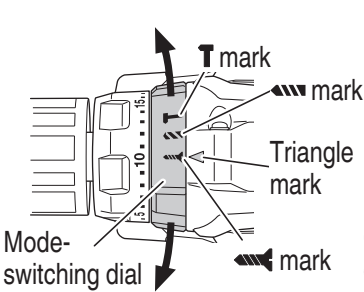
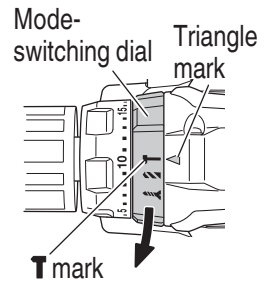

Fig. 14
Fig. 16
Confirm the mode-switching dial and clutch dial position (see Figs. 14, 15 and 16)
- (1) When using this unit as a screwdriver, align the mode-switching dial screw-tightening mark “” with the triangle mark on the outer body, and line up the one of the numbers “1, 5, 10 ... 20” on the clutch dial, or the dots, with the triangle mark on the outer body (see Figs. 14 and 15).
- (2) When using this unit as a drill, align the mode-switching dial drill mark “” with the triangle mark on the outer body.
- (3) When using this unit as an impact drill, align the mode-switching dial hammer mark “**T**” with the triangle mark on the outer body (see Fig. 16).
- Always use this unit with clockwise rotation, when using it as impact drill (See Fig. 16).